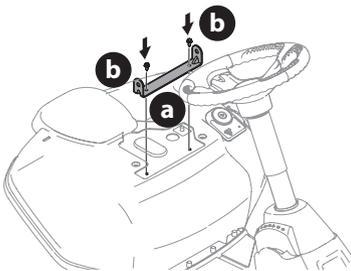

Figure 6
3. Align the seat bracket (a) in place over the holes from where the self-tapping bolts (b) were removed (Figure 6).
4. Using a 1/4 inch drive ratchet with a 3/8 inch socket, secure the seat bracket (a) with the self-tapping bolts (b) removed in Step 2 (Figure 6).